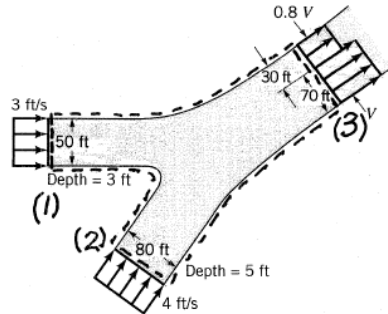

FIGURE P5.13
5.13 Two rivers merge to form a larger river as shown in Fig. P5.13. At a location downstream from the junction (before the two streams completely merge), the nonuniform velocity profile is as shown. Determine the value of V .